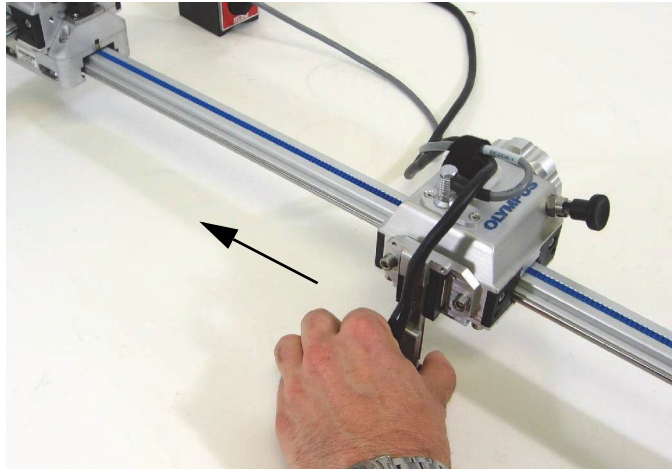

Figure 3-3 Making the inspection pass with the Y-axis module
6. Move the Y-axis encoder module across the inspection surface (see Figure 3-3 on page 61).